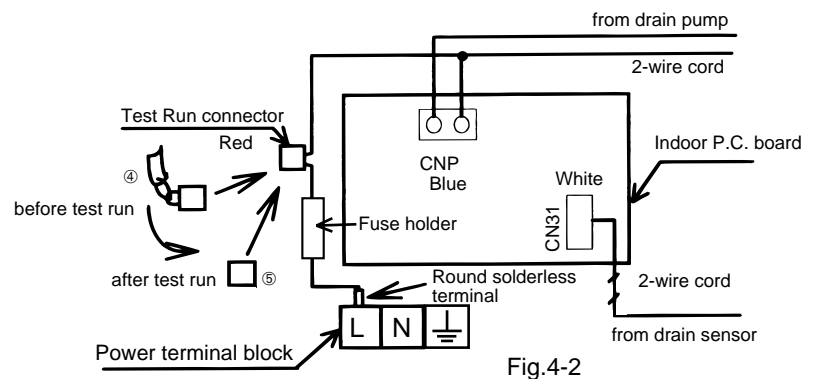

Fig.4-2
2. Connecting the pump wires to the control box of the indoor unit (Fig. 4-2)
- a) Connect the blue connector of the 2-wire cord to CNP on the indoor P.C. board inside the control box, and fix the fuse holder to the specified position (Photo 4-2) inside the control box using two PTT screws ⑧. The round solderless terminal must be connected to [L] of the power terminal block.
- c) When wiring is complete, fasten the remaining cords with the band ⑦.